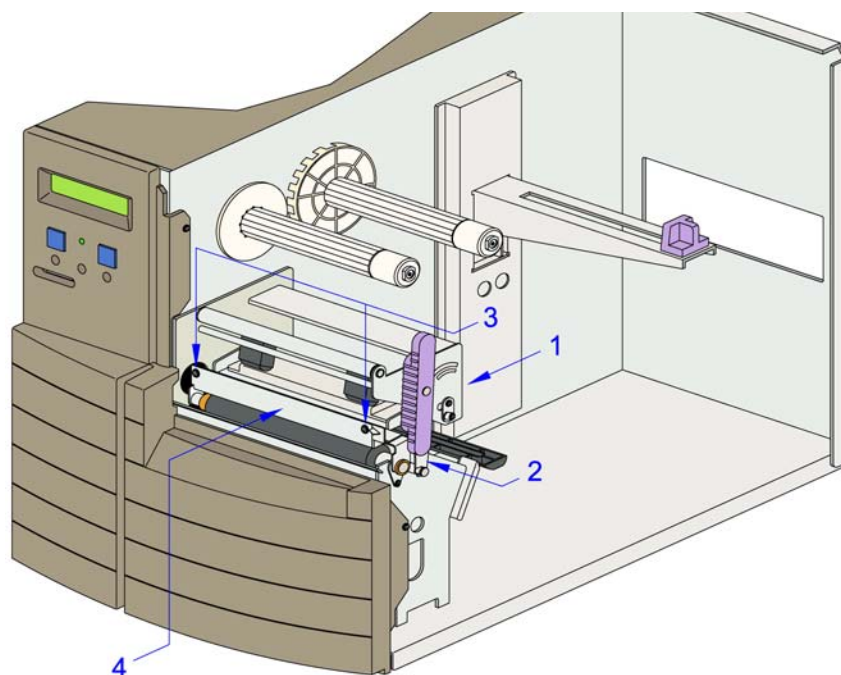

Figure 6-6, Ribbon Guide Alignment
NOTE: To facilitate viewing of pertinent components, Figure 6-6 does not show ribbon and media loaded. When performing this adjustment activity, both must be loaded.
- 2 Open the right housing cover to access print assembly (1, Figure 6-6) and disengage print head latch (2).
- 3 Loosen one of the two set screws (3) and move the free end of ribbon guide (4) upward or downward as necessary until the ribbon appears to unwrinkle.
- 4 Retighten loose set screw (3) while holding ribbon guide (4) in place.
- 5 Engage print head latch (2), close cover, and test print a label.